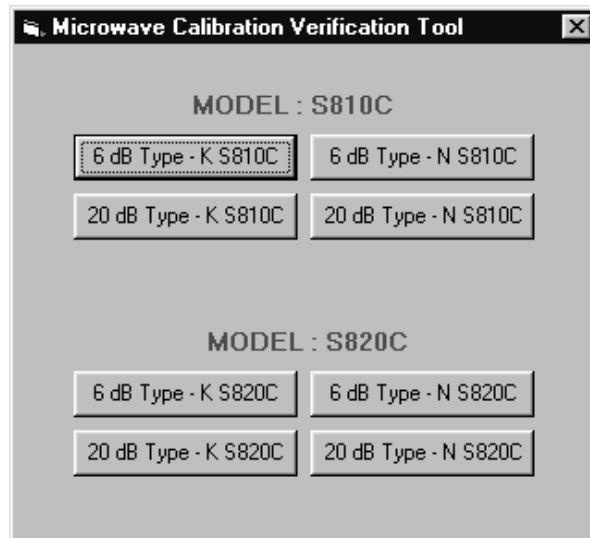

Figure 1. Calibration Verification Test Selection Screen
12. On the PC, select Ok to close the opening window. The test selection screen as shown in Figure 1 will be displayed.